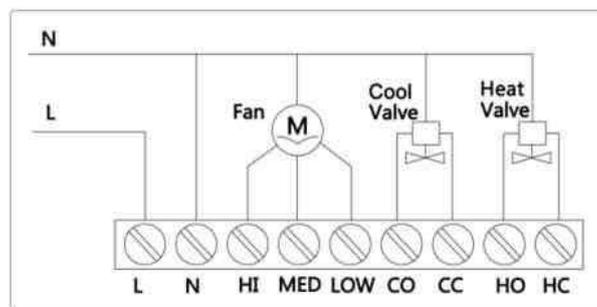

Figure 33. MCO fan coil thermostat wiring.
**Step 2:** Insert all wires into the right terminals and tighten screws. The wiring diagram is shown below (Figure 33).